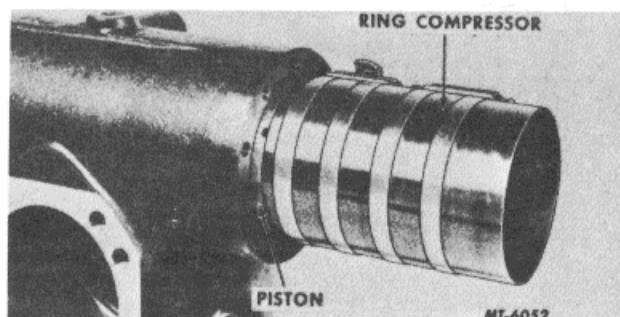

Fig. 30
11. Install piston assembly using a ring compressor on each end. Fig. 30 illustrates ring compressor on second ring. Be sure piston is installed with the actuating shaft opening facing the bearing cap end. NOTE: Before installing piston, coat piston and cylinder walls with oil.